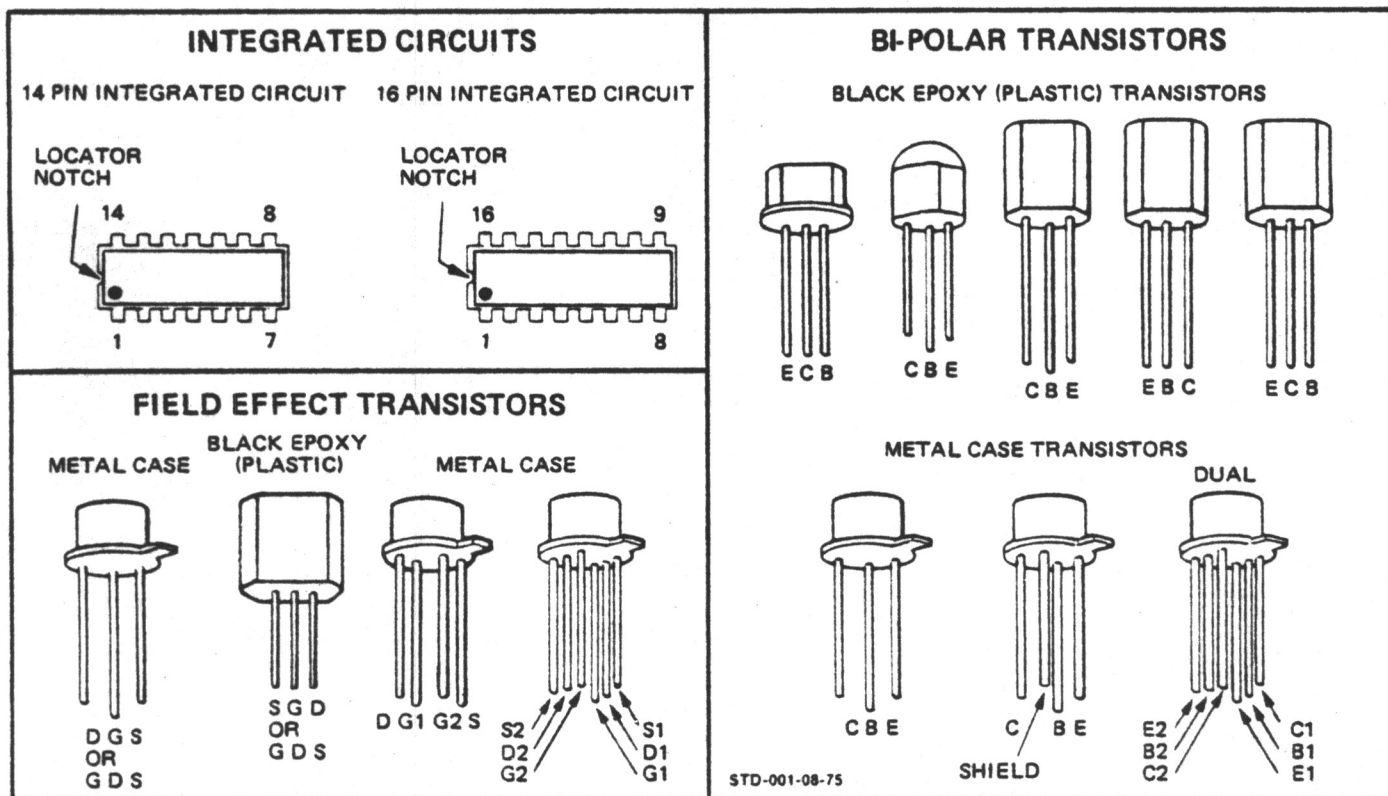

Figure 8-1. Semiconductor Terminal Identification
**8-15. Servicing Etched Circuit Boards.** All the etched circuit boards have plated-through component holes. This allows components to be removed or replaced from either side of the board. When unsoldering large components such as potentiometers, rotate the soldering iron tip from lead to lead while applying pressure to the part to lift it from the board. HP Service Note M-20E contains additional information for repair of circuit boards. Figure 8-1 is included to help identify the leads on the common shapes and sizes of semiconductor devices.